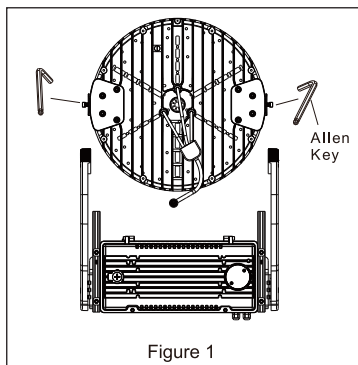

Figure 1
2. Remove the M10 bolts from the LED array using an Allen key. **See Figure 1.**